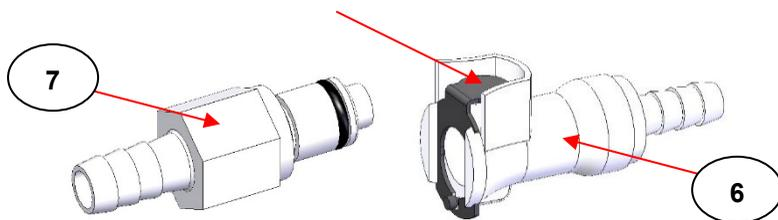

Fig 2. Quick Connect Body and Insert Couplings for Cooling Water Black Silicone Tubing
By convention, any supply of cooling water is introduced into the lower cooling block (3) and then passes to flow through the top cooling block (2). The black silicone tubing attached to the lower cooling block (3) for water introduction is supplied finished with a Quick Connect **body** coupling (6). The black silicone tubing attached to the top cooling block (2) for water flow out is supplied finished with a Quick Connect **insert** coupling (7). (See **Fig 2.**)